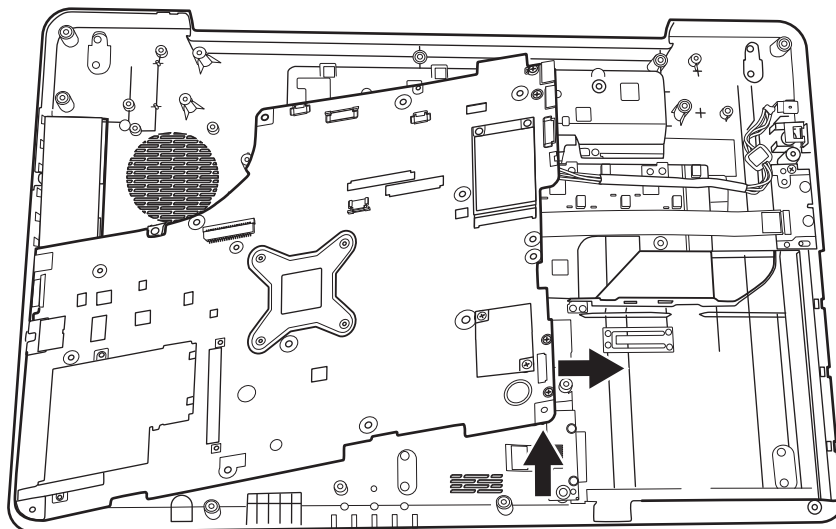

Figure 4.24 Picking up the motherboard
3. Use your hands to pick up the motherboard in the direction of the arrows as shown in figure 4.24.